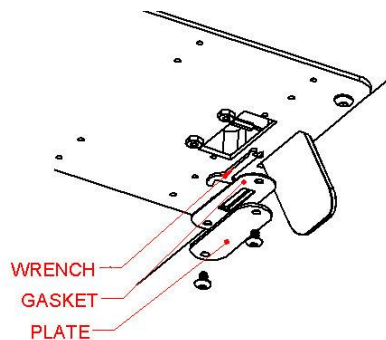

Figure 1
1.1 This adjustment requires a #2 Phillips screwdriver. Using the screwdriver, remove two screws from the plate as shown in Figure 1. After removal of the plate, take the wrench from the gasket. This wrench is used to adjust the cable tension.